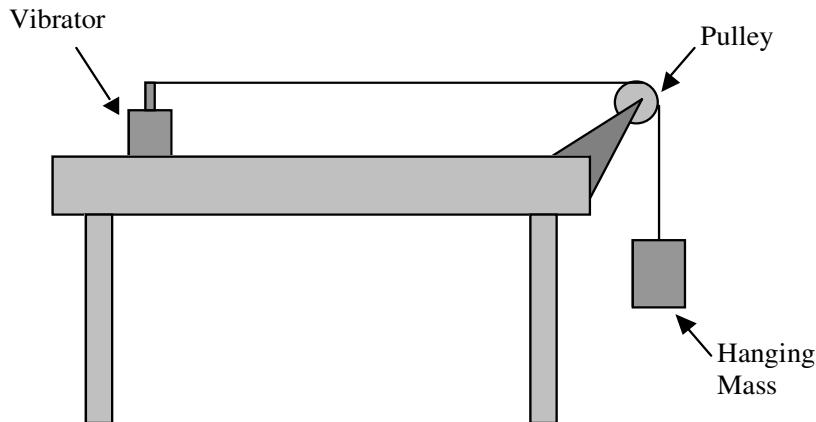

Figure 2: Experimental schematic
A schematic of the apparatus for this experiment is shown in Figure 2. The vibrator is driven by an amplified signal from the function generator, which controls the frequency. A long piece of string is connected to the vibrator. The string runs over a pulley fixed to the end of the lab table. Weights are suspended on the end of the string such that the hanging mass produces tension in the string.
- 1) Suspend a 100 g mass from the end of the string and adjust the frequency (which device governs the frequency? See above description of Figure 2) to cause a standing wave with 3 anti-nodes (*i.e.*, one for which the total number of nodes is 4, including the ends).